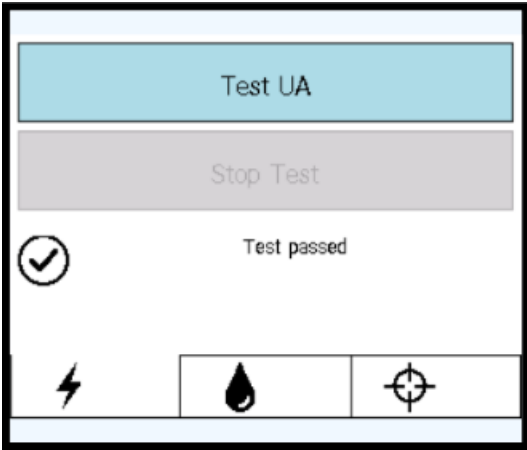
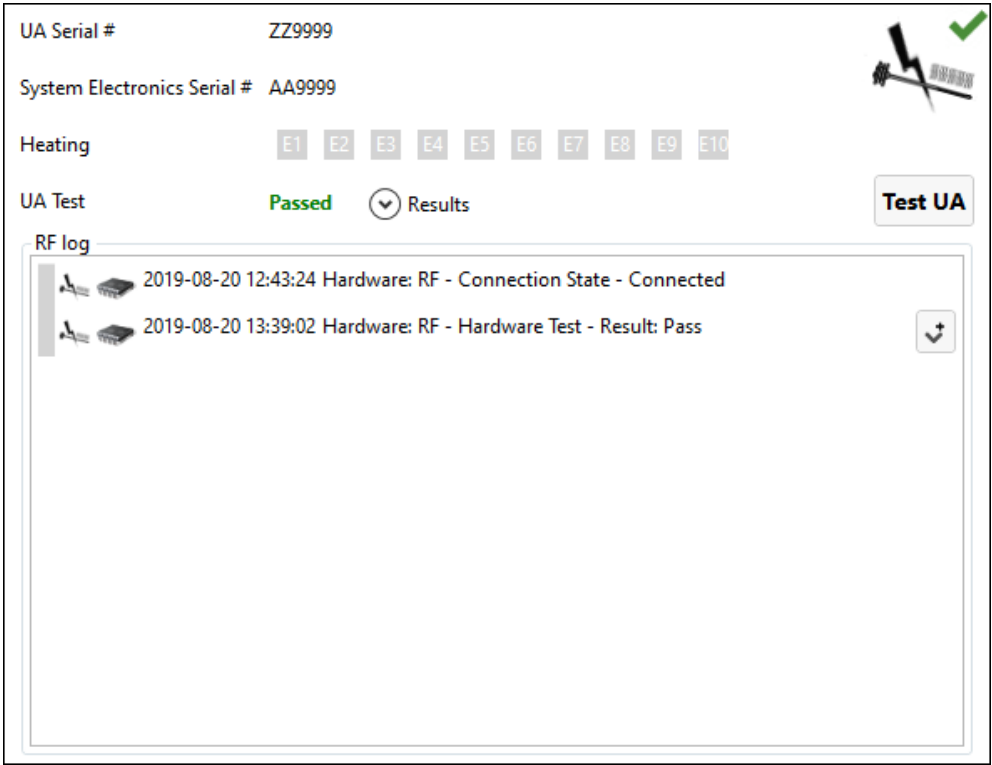

Figure 15: RF tab on PSIB display after successful RF connectivity test
Figure 16: RF information box in Setup workspace after successful RF connectivity test
3. In the **RF** tab ⚡ of the PSIB display, click **Test UA** (Figure 15).
The system will send a short burst of power to each of the ten UA elements to ensure continuity and functionality of all ten channels. This can also be done from the TDC Setup workspace from the RF information box in the top-right quadrant (Figure 16).
When the RF connectivity test is complete, the PSIB will display a short message (Figure 15). You can see detailed RF connectivity test results in the RF information box of the TDC software (Figure 16).